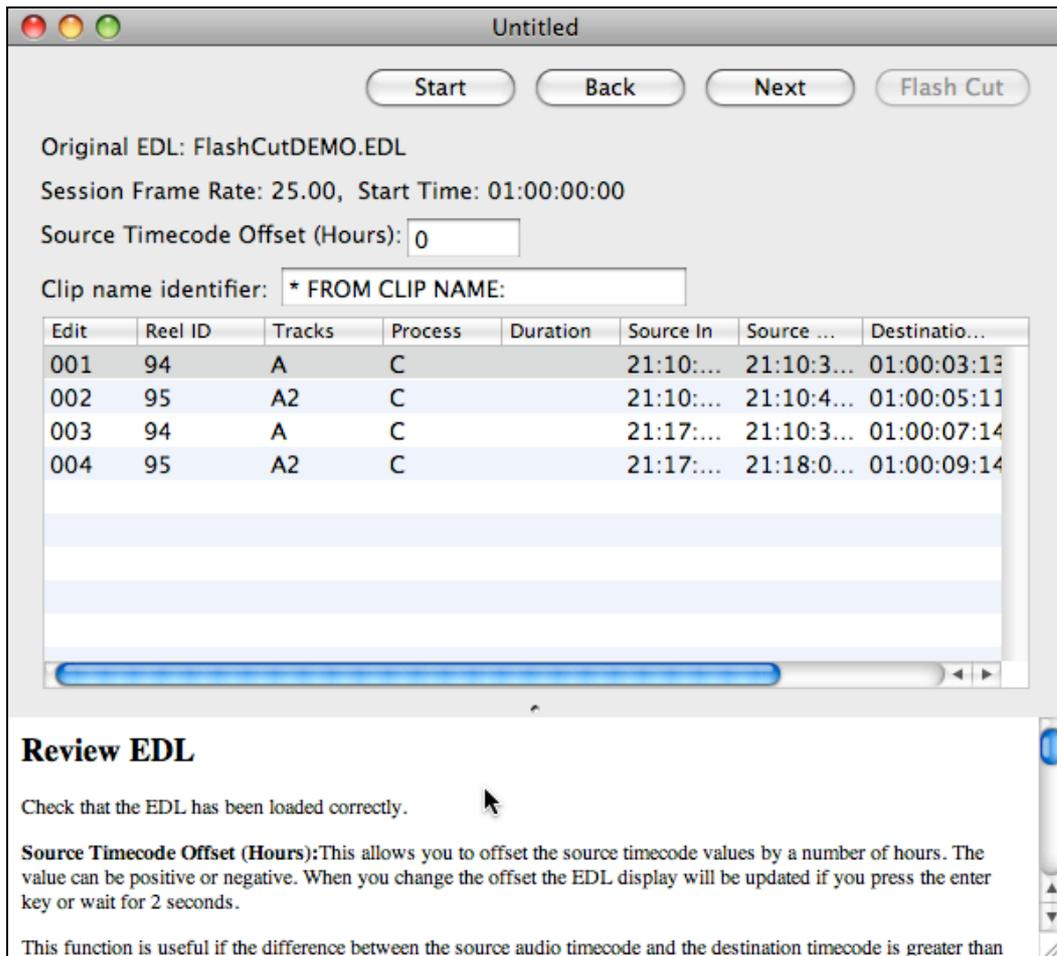

Figure 30 Review EDL window
- Using the example, the Flash Cutter window should look as shown in Figure 30. This display using the example EDL shows four EDL lines and has correctly interpreted the Reel ID, Track, In and Out times contained in the EDL. You can click